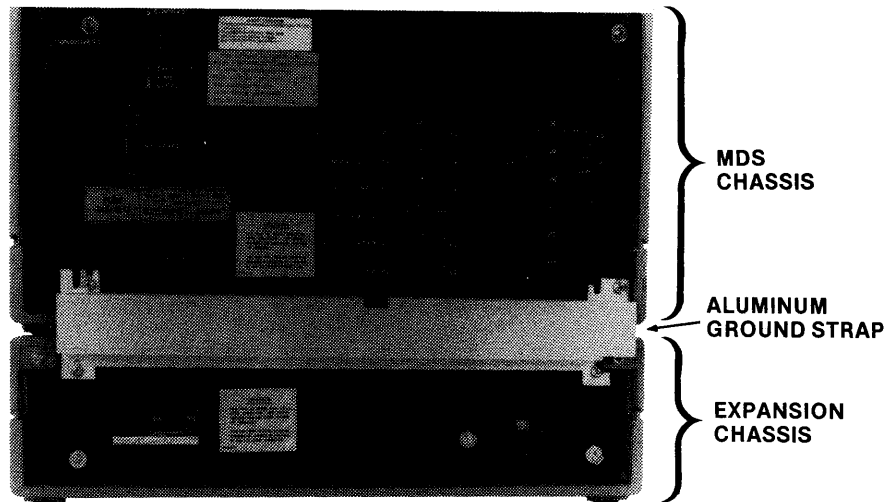

Figure 4-25. Expansion Chassis Ground Strap Installation
8. Refer to Figure 4-25. Attach the static grounding strip as shown.